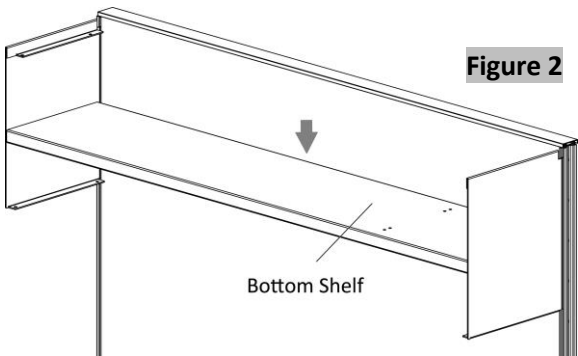

Figure 2
- 4. Position the bottom shelf at the desired position, (Figure 2).